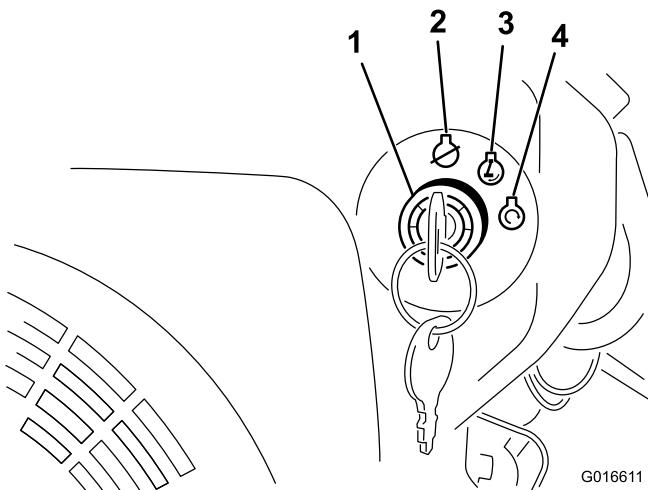

Figure 13
- 3. Turn the engine ignition switch to the Start position (Figure 13).
4. After the engine starts, release key to the Run position (Figure 13).
2. Turn the ignition switch to the Off position (Figure 13).